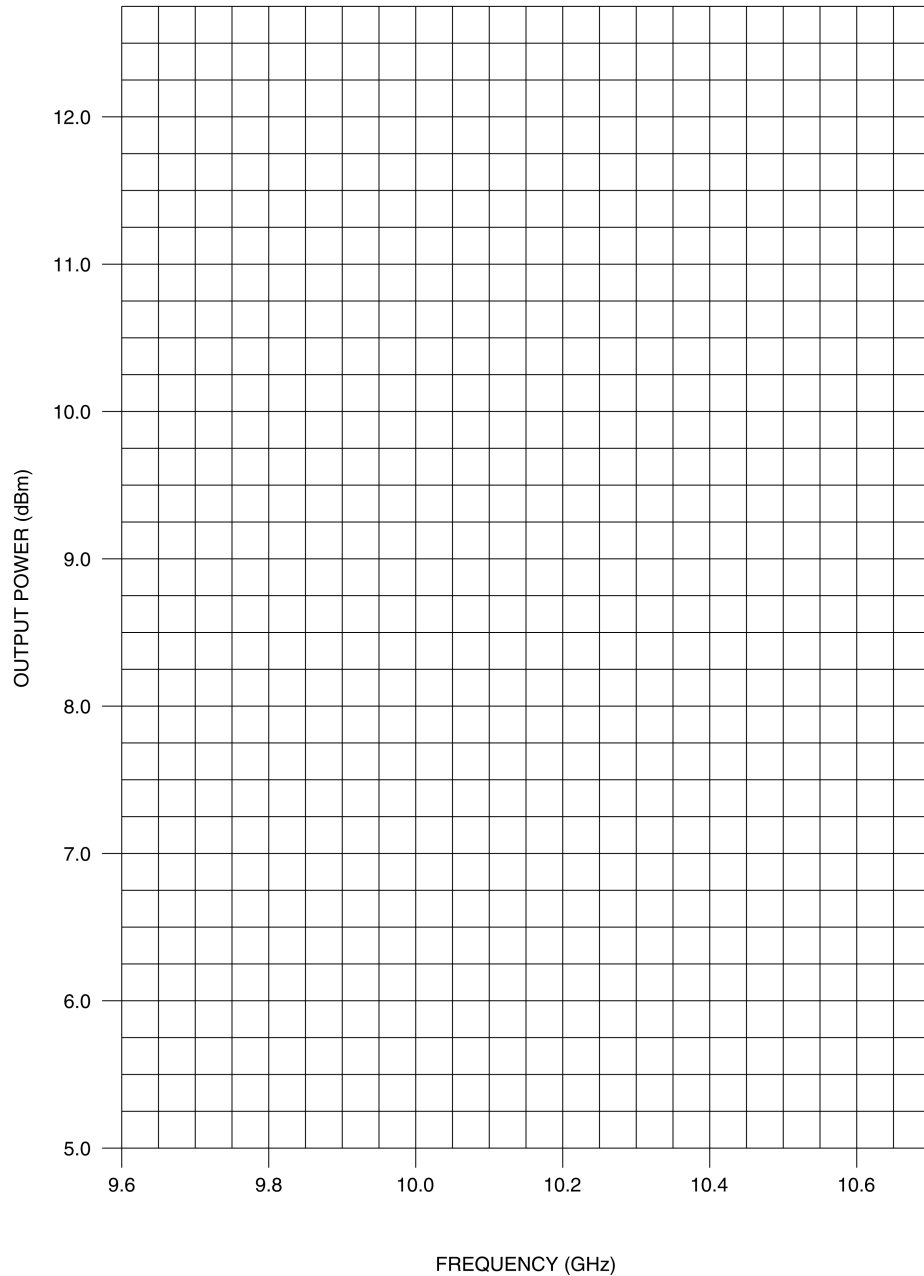

Figure 2-8. VCO output signal power over its nominal frequency range.
10. From the results you obtained in Table 2-2, plot in Figure 2-8 the VCO output power for each of the listed frequencies.